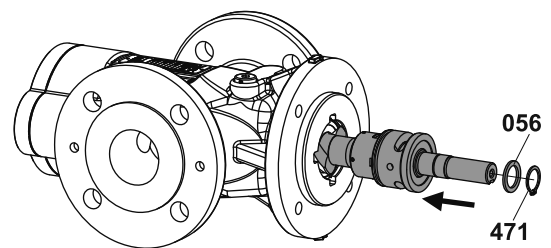

Fig. 16
7. Mount the supporting ring 056 and circlip 471. Slide the main screw with pre-mounted sealing sleeve into the pump housing until the main screw engages into the idle screws, see Fig. 16. In doing so turn the main screw and take the position of the clearance for the adapter sleeve into account.